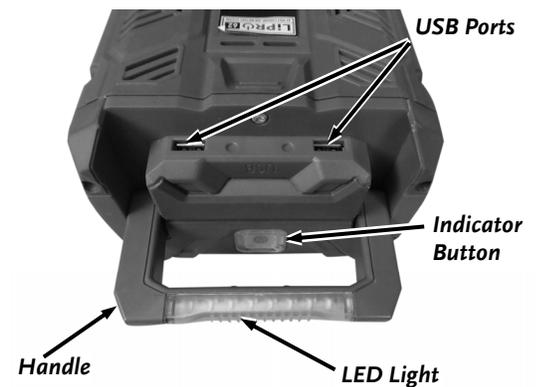

Figure 12
2. Flip the Handle to the open position (**Figure 12**)
2. Flip the Handle to the open position (**Figure 12**).